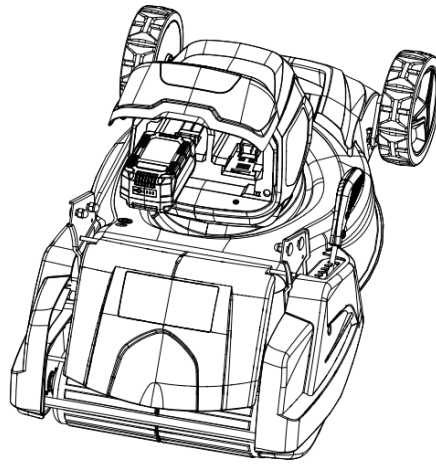

Fig.5B
4. Remove battery pack from the mower. (Fig.5B)